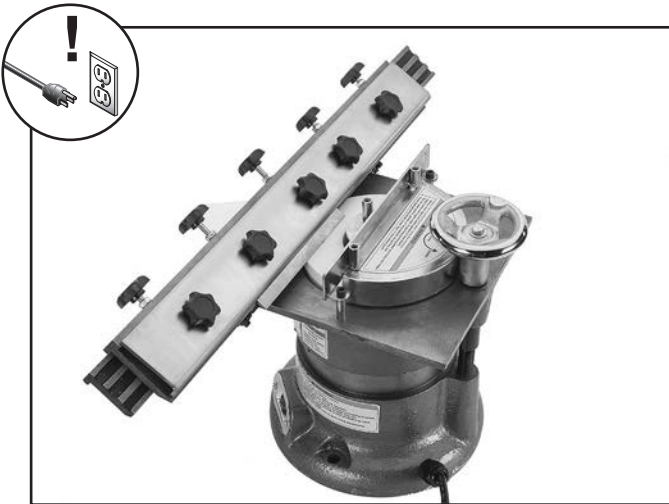

Figure 22. Slide bar assembly and knife mounted on the grinder.
10. Carefully place the slide bar assembly on the slide table, as shown in **Figure 22**, loosen the table lock, then lower the grinder table until the wheel just makes contact with the knife.